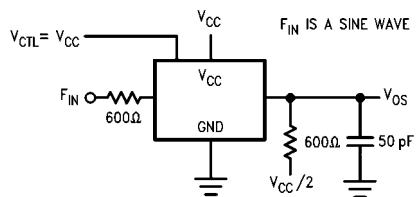

FIGURE 10. Switch OFF Signal Feedthrough Isolation
| | Switch OFF Signal Feedthrough Isolation (Figure 10) | R _L = 600Ω, F = 1 MHz V _(CT) V _{IL} (Note 7) (Note 8) | 4.5V | –42 | | | | dB |